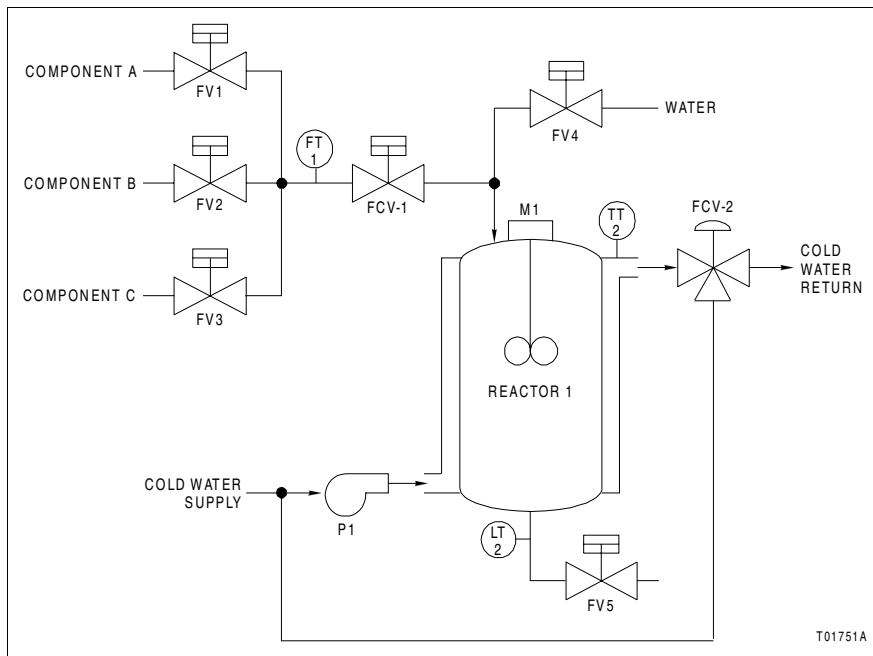

Figure 123-3. Control Devices Associated with Example Batch Reactor
1. The devices associated with control of the batch reactor must be identified. These devices include analog measurement sensors, modulating control valves, and discrete devices such as motors and on/off valves. Discrete device status feedback, such as motor starter holding contacts and valve limit switches, should also be considered. The analog and discrete devices associated with the example batch reactor are shown in Figure 123-3.